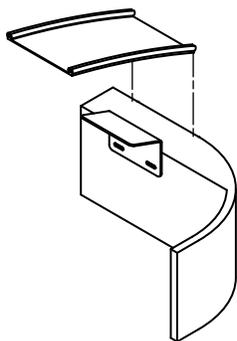

Figure 8-2
- Figures 8-2 & 8-3.** Position Angle Bracket Trough with the slotted holes against the trailer and clamp to trough.
- Figure 8-2.** Position trough 1/2" from outside edge of trailer on both sides and clamp in place.